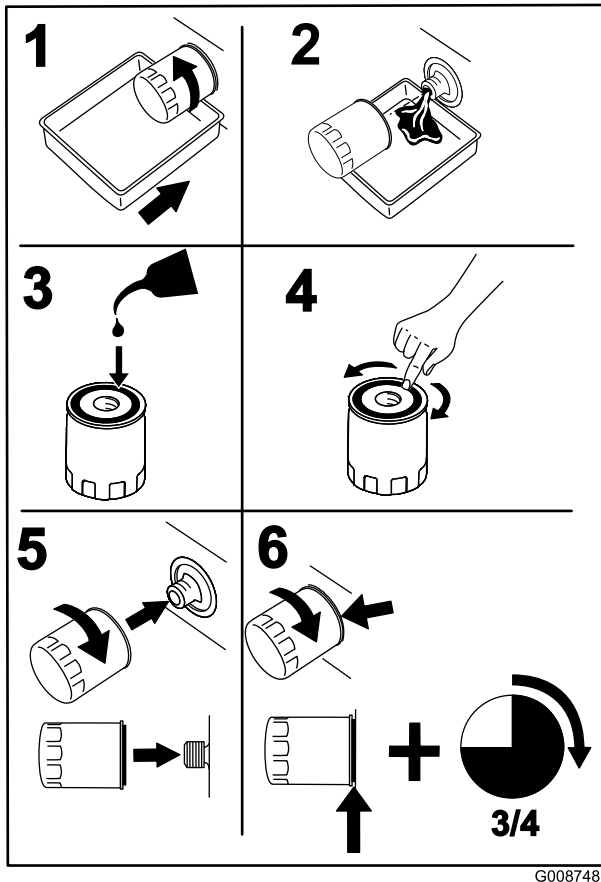

Figure 32
- Change the engine oil filter (Figure 32).